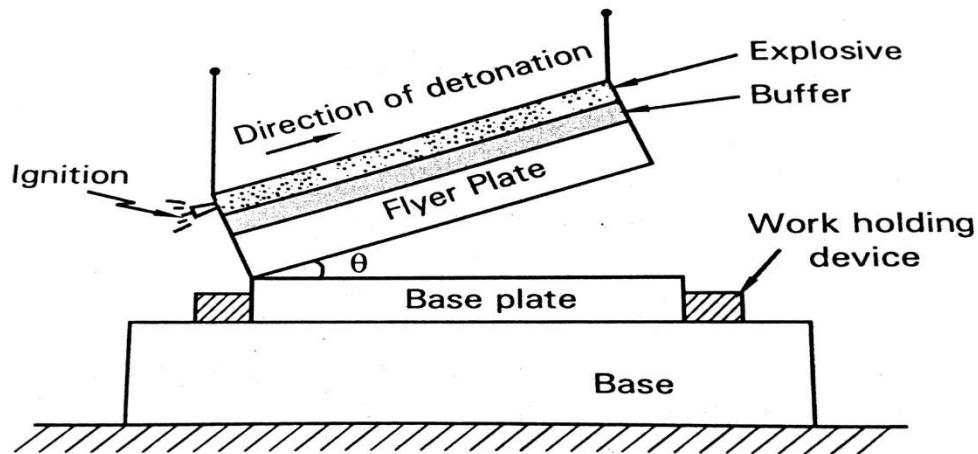

Figure 4.12 Explosive welding
- Fig. 4.12 shows the details.